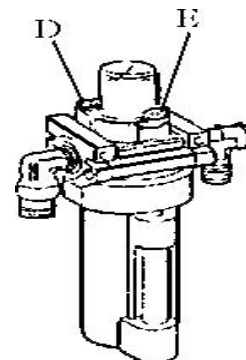

Fig 19
For continuous operation, tread twice every time, drop down a drip of oil, otherwise adjust the screw (D) that controlled oil enters with minus screwdriver. (Fig19)